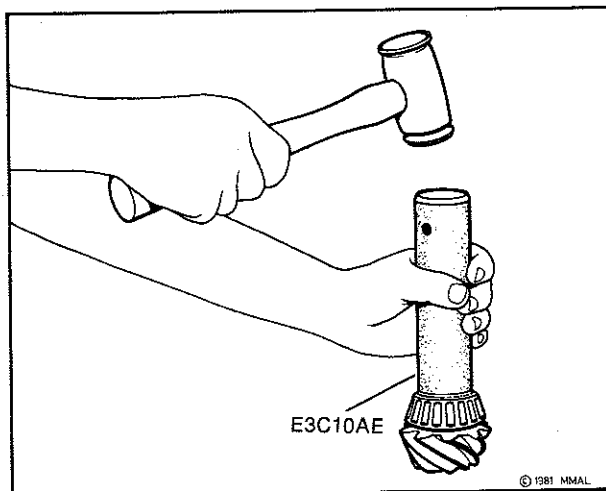
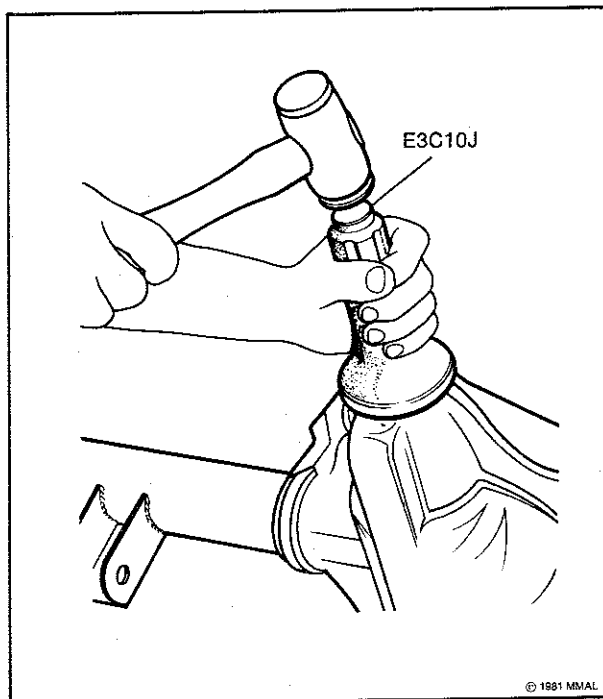

Fig. 31—Installing rear pinion bearing cone
Fig. 32—Installing pinion oil seal
(10) Remove tools from carrier and install the selected spacer in the rear pinion bearing cup bore of the carrier.
(11) Install the rear pinion bearing cup in the carrier.
(12) Install rear pinion bearing cone to the pinion, refer Fig. 31.
(13) Install front bearing cone to carrier.
(14) Lubricate sealing lips of pinion oil seal and install seal, refer Fig. 32.